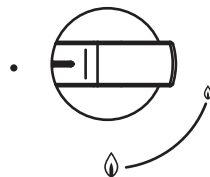

Fig 8
1. To light the hotplate push in the appropriate control knob and turn anti-clockwise to the large flame symbol (fig. 8).